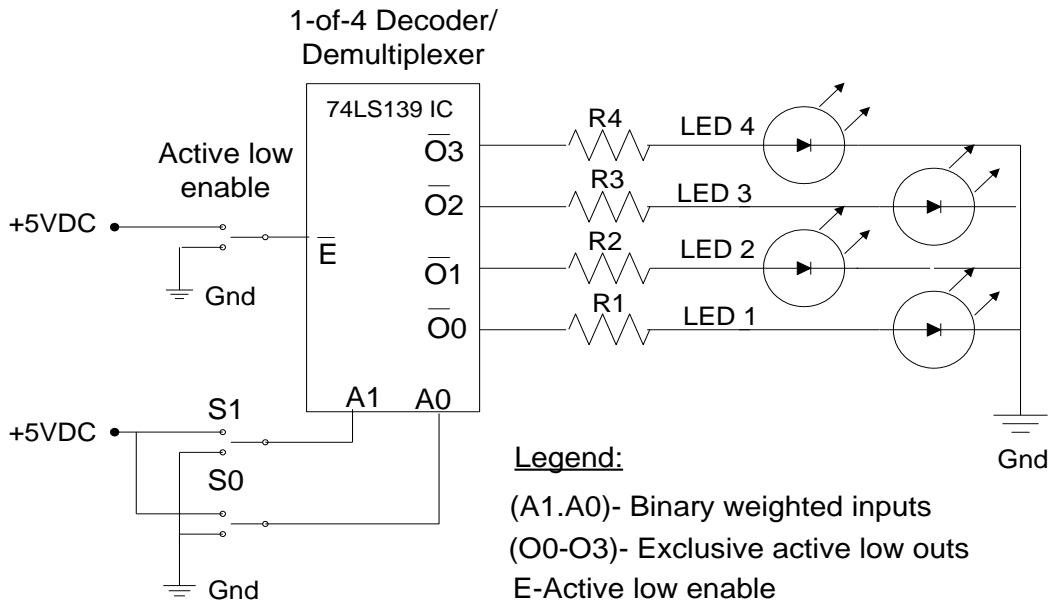

Figure 8: 1 of 4 Decoder/ Demultiplexer
1. Assemble the circuit as shown in Figure 8.